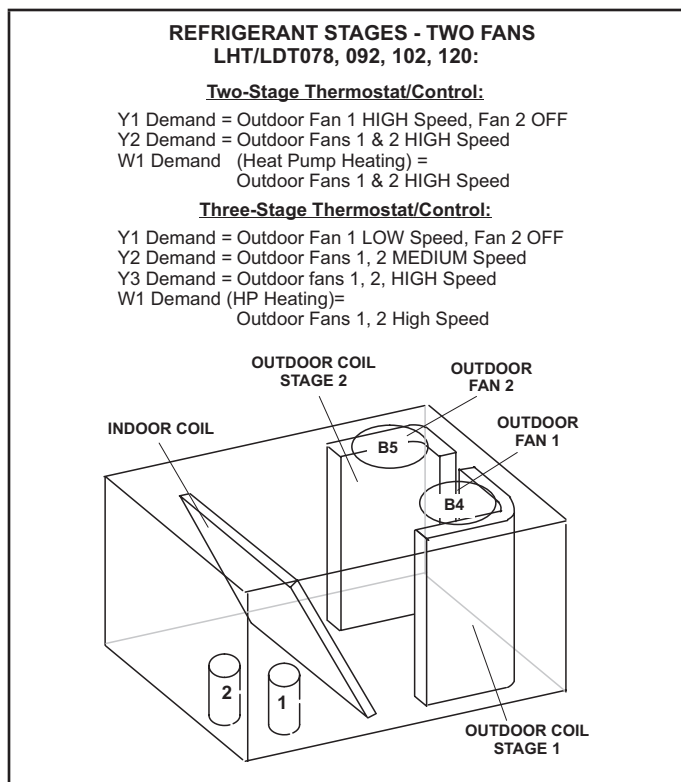
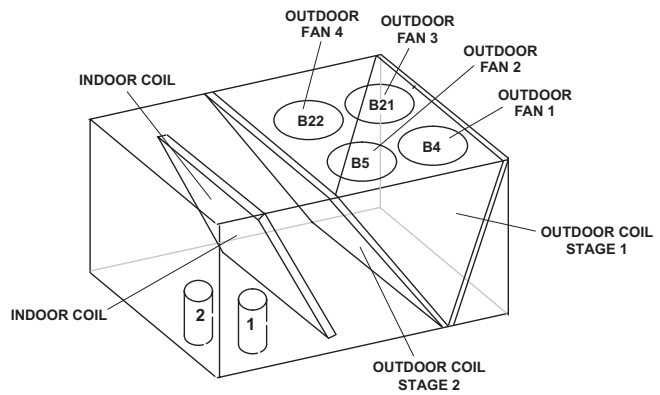

FIGURE 25
FIGURE 26
- 3 - Units have two refrigerant circuits. See FIGURE 25 or FIGURE 26.